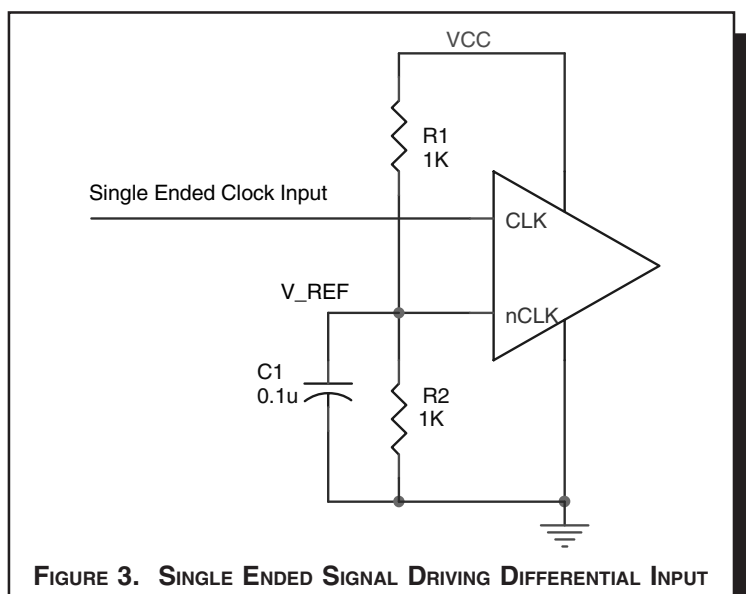

FIGURE 3. SINGLE ENDED SIGNAL DRIVING DIFFERENTIAL INPUT
*Figure 3* shows how the differential input can be wired to accept single ended levels. The reference voltage  $V_{REF} = V_{cc}/2$  is generated by the bias resistors R1, R2 and C1. This bias circuit should be located as close as possible to the input pin. The ratio